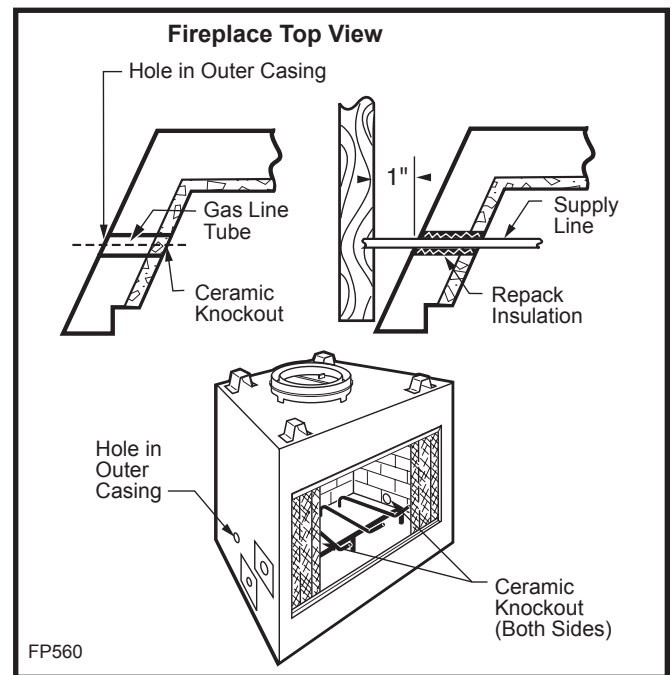

Fig. 3 Gas line installation - factory-built fireplaces.
Insert a 1/2" gas pipe through the gas line tube provided by the manufacturer, from outside the fireplace, as marked by the manufacturer. An ON/OFF valve should be placed within easy reach of the appliance. After the gas supply is installed, reinstall the insulation removed from the gas line tube, and pack it around the pipe, to prevent cold air entry and to protect the gas line. (Fig. 3)
**NOTE:** The gas pipe should not come into contact with any wood structure until it has reached a point at least one (1) inch away from the fireplace side. (Fig. 3)